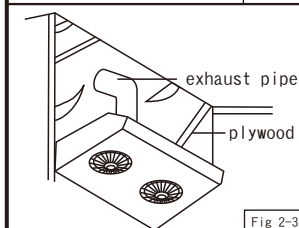

Fig 2-3
- 1) Exhaust vent is located on front of cooking surface (Fig2-3). Knock out one pieceof glass, pywood is fitted to exhaust pipe to go through.